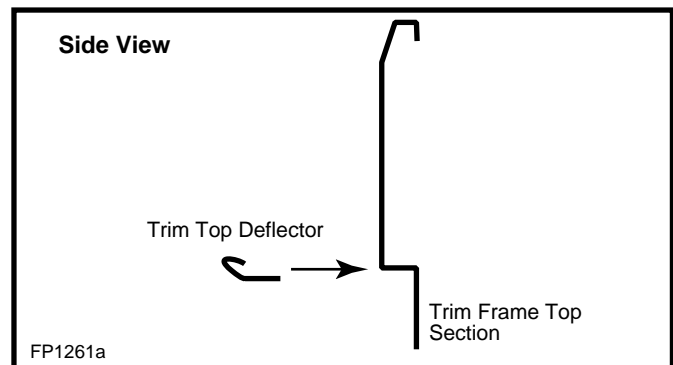

Fig. 56 Trim top deflector.
3. Install the trim top deflector and use two screws to fasten it. (Fig. 56)